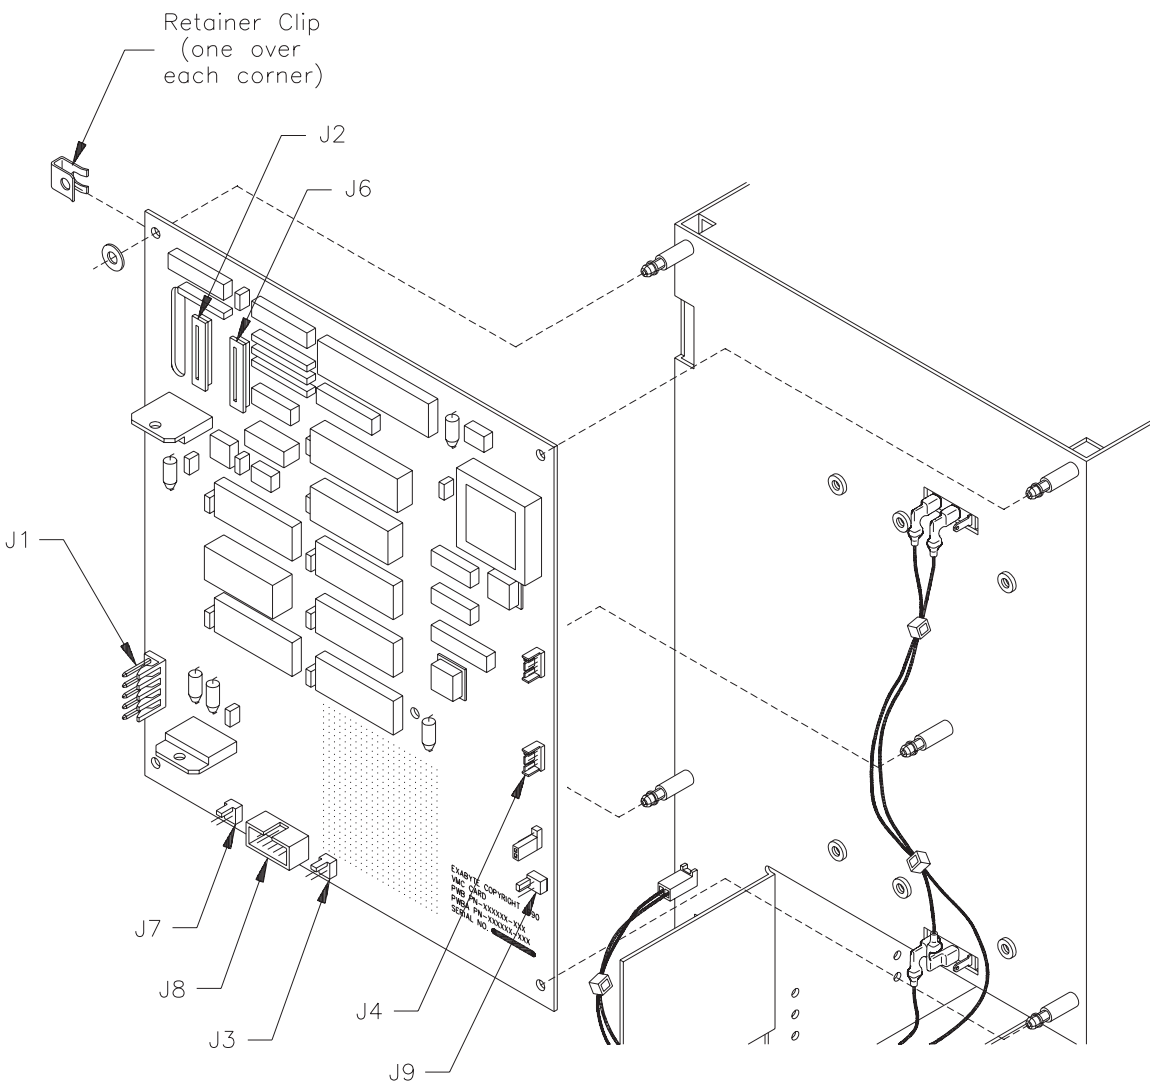
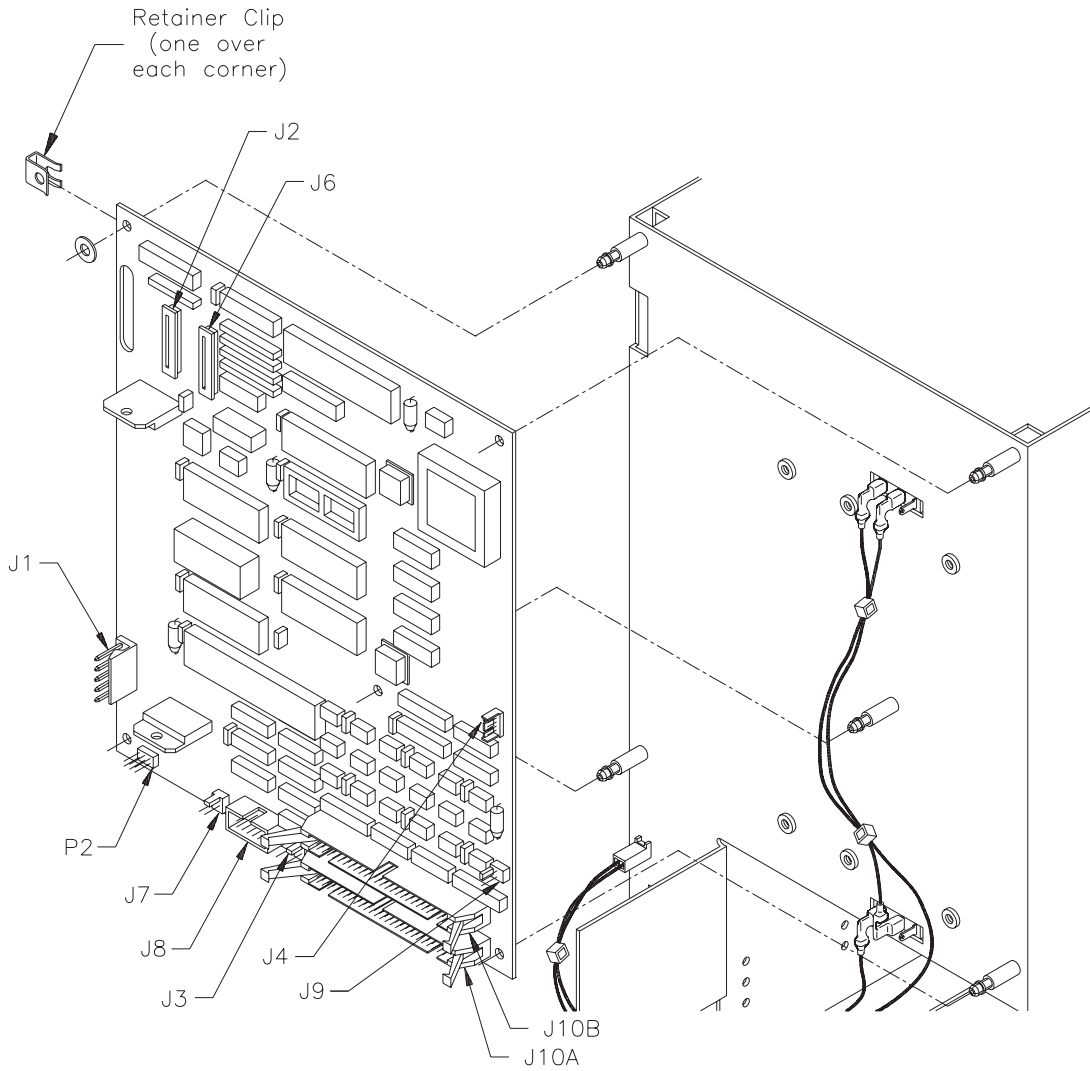

Figure 14-1 VMCS card for the EXB-10
Figure 14-2 VMCR card for the EXB-10i
3. Locate the VMC card behind the chassis wall. (The VMCS card for the EXB-10 is shown in Figure 14-1; the VMCR card for the EXB-10i is shown in Figure 14-2.) Disconnect all the cables from the VMC card. These cables are connected to “J1” through “J9”; “J5” is not used.
4. Locate each of the four retainer clips and plastic washers, as shown in Figure 14-1 and Figure 14-2. Remove the clips by using a flat-blade screwdriver to pry off each one.
1. Align the five lug holes on the card with the five lugs on the chassis wall. Make certain the components on the card are facing out. The correct position of the VMC card is shown in Figure 14-1.
4. Connect all of the cables to the VMC card, as indicated below. Each of the connector labels is shown in Figure 14-1 for the VMCS card and in Figure 14-2 for the VMCR card.